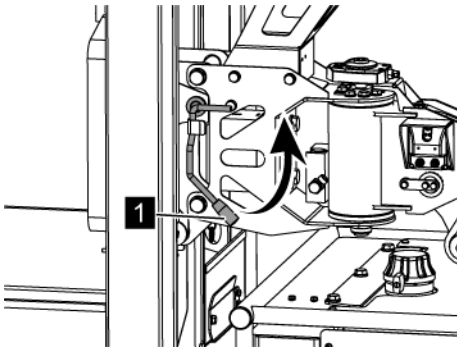

Fig. 153: Basket bolt
6. → Turn the basket bolt (Fig. 153/1) 90° anti-clockwise.